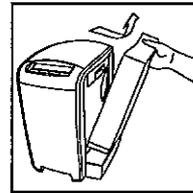

Fig. 28
- Remove the tank from the unit (Fig. 28).